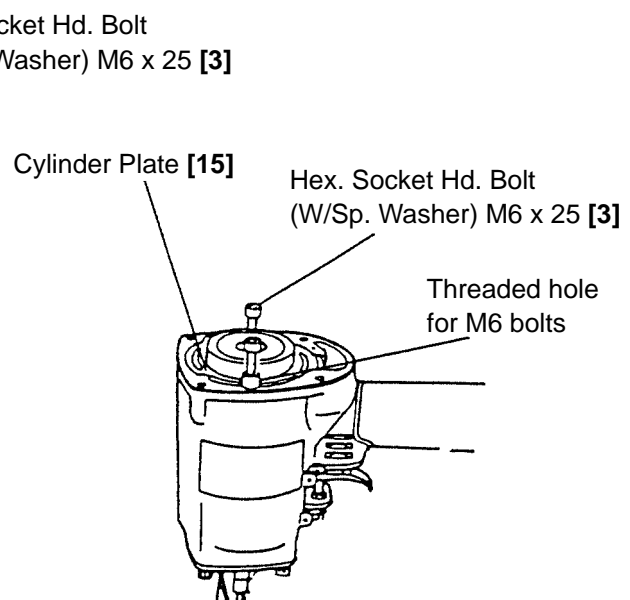

Fig. 9
- Next, as illustrated in Fig. 9, screw two of the previously removed Hex. Socket Hd. Bolt (W/Sp. Washer) M6 x 25 [3] into the provided holes on the Cylinder Plate [15].